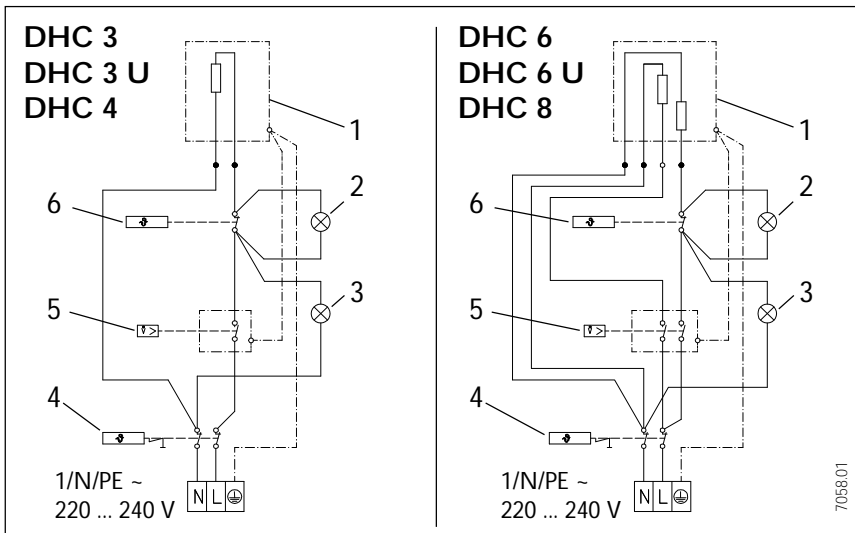

Fig. 14
⚠ The unit must be connected to the safety earth terminal (see Fig. 14).
Legend to Fig. 14
- Establish the electrical connection (Item 10) in accordance with Fig. 14, and tighten the screws of the strain relief collar.
- Establish the fixed-position lead (Item 7) for the electrical connection (Item 10) in accordance with Fig. 14
- Lay the fixed-location lead (Item 15) for the electrical connection (Item 16) in accordance with Fig. 14.
- Lay the fixed-location lead (Item 7) for the electrical connection (Item 10) in accordance with Fig. 14.